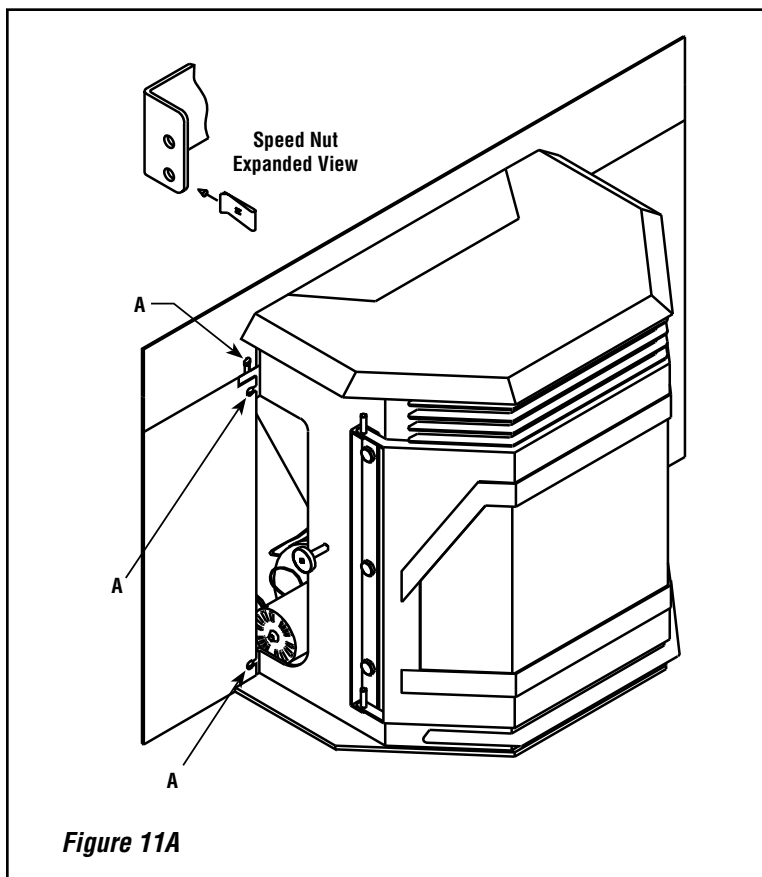

Figure 11A
1. Remove the side doors (see **Page 25**) to access the surround mounting brackets. Remove the speed nuts from the parts bag found in the firebox. Install the six speed nuts (with the flat surface forward) on the six surround mounting bracket holes, three on each side of the insert. A flat-bladed screwdriver may help in installing the nuts. See the expanded view in **Figure 11A**.
2. Screw the six 1/4" truss head screws partially into the speed nuts (see A in **Figure 11A**).